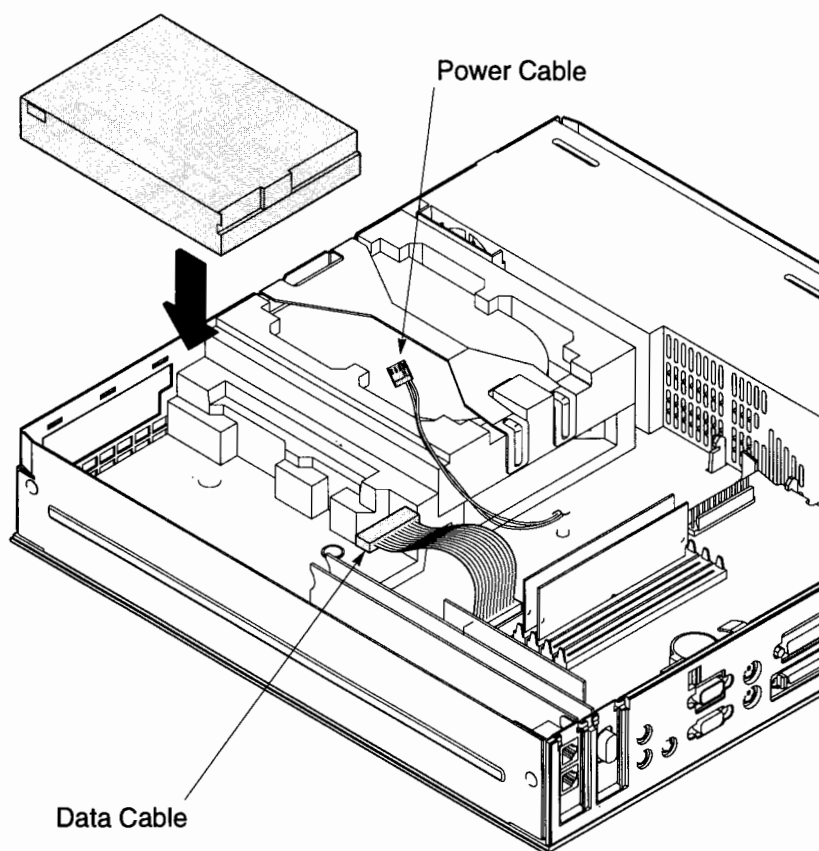

Figure B-8. Installing the Floppy Drive
7. Place the floppy drive into the foam bracket on the bottom of the floppy drive bay, as shown in Figure B-8.